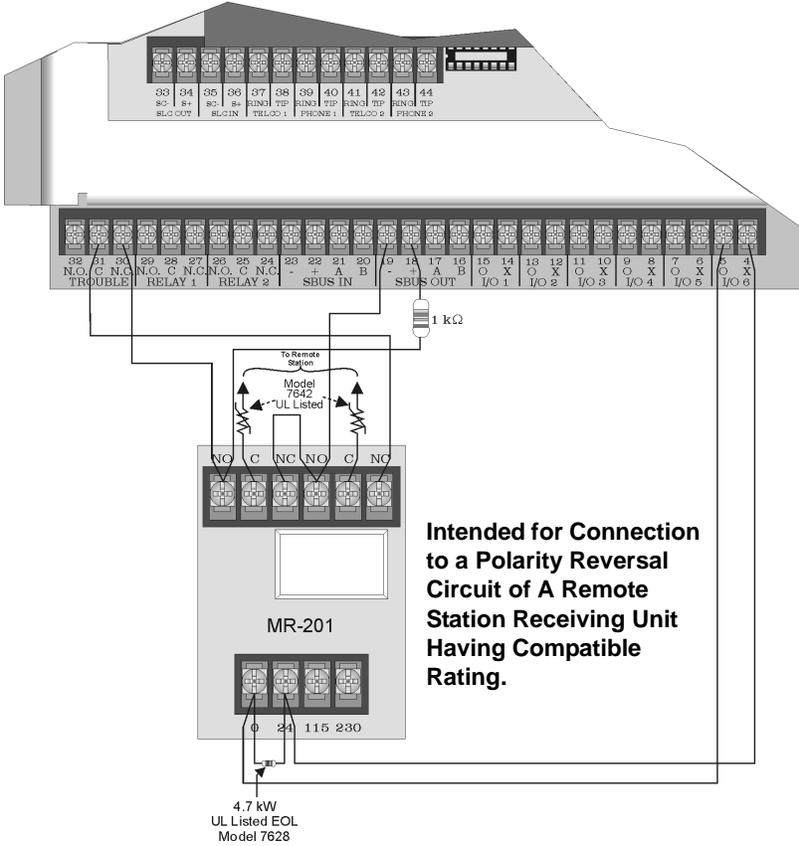

Figure 4-51 MR-201/T Wiring Connections
- 1. Wire the MR-201/T as shown in Figure 4-51.